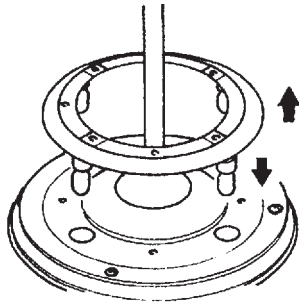

Fig. 2
2. Remove the old bulb(s) and replace with the new bulb(s) (see Fig. 2).